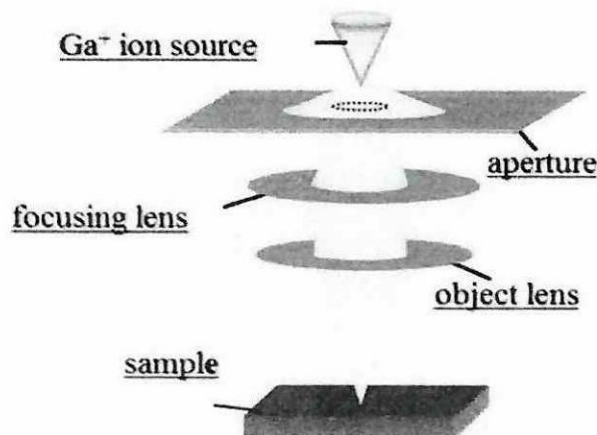

Figure Q3(d)
- Q2** (a) A batch of electronic circuitry was patterned on 4-inch silicon (Si) wafer using a photolithography process to produce hundreds of integrated chips (IC). The student was given a task to examine the final details of that IC's condition.
- (i) Recommend **ONE (1)** technique that can be used to investigate the chemical and physical properties of the internal IC's structure such as quality, shape and quantum densities. (2 marks)
- (ii) Explain in detail **THREE (3)** common sequences of sample or specimen preparation prior to the characterization technique that recommended in part **Q2(a)(i)**. (10 marks)
- (c) Explain **TWO (2)** conditions from the results that can be produced using the technique answered in part **Q2(b)**. (6 marks)
- (d) Name **ONE (1)** real application of characterization technique that can measure the emitted radiation. Explain briefly. (5 marks)
- (b) Based on the answer in part **Q3(a)**, relate the required qualification and give **ONE (1)** example for a long-term reliability test for faster feedback. (6 marks)
- (c) The most important part of Metal Oxide Semiconductor (MOS) device is its gate oxide structure. Classify **THREE (3)** distinct regions of oxide breakdown with a graph, oxide electric field versus the number of failures. (7 marks)
- (d) Further failure analysis of a device was examined using Gallium (Ga) ions, Ga^+ with a final focus tip probe less than 10nm diameter, as shown in **Figure Q3(d)**. Outline **THREE (3)** common procedures from the given image. (6 marks)